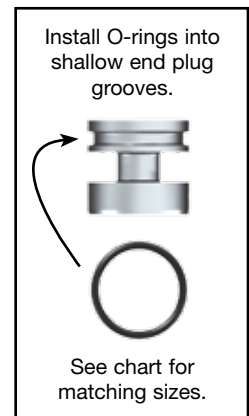

Figure 1
a. Install the O-rings on the end plugs into shallow groove machined into one end spool (**Figure 1**). For all end plug sizes, the appropriate O-ring must be installed, see chart (**Figure 2**).